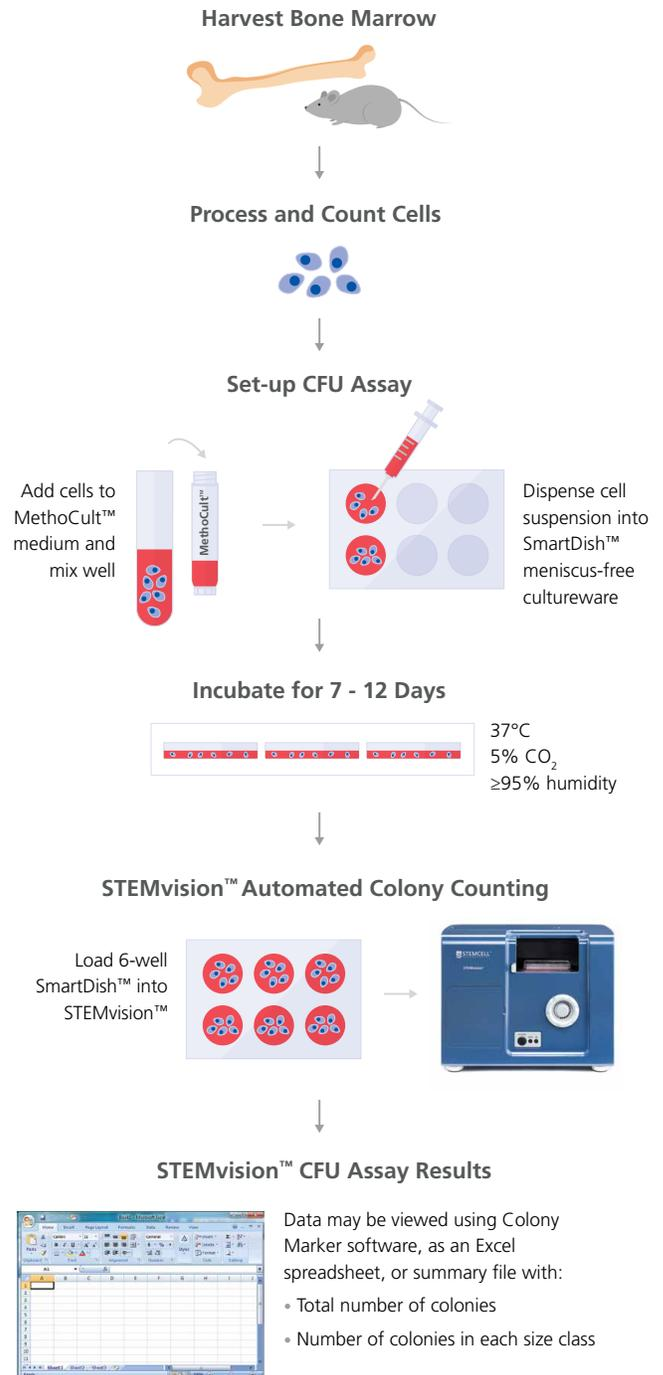

Figure 1. A Typical CFU Assay Workflow Incorporating STEMvision™ for Automated Counting of Mouse BM Colonies
To save time and standardize colony counting for mouse bone marrow (BM) CFU assays, investigators can use STEMvision™, a bench-top instrument and computer system designed specifically for automated imaging and counting of hematopoietic colonies in the CFU assay. This system is optimized for use with MethoCult™ media and meniscus-free SmartDish™ cultureware (Figure 1). The use of this standardized platform significantly improves the accuracy and reproducibility of mouse CFU assay counting and analysis.